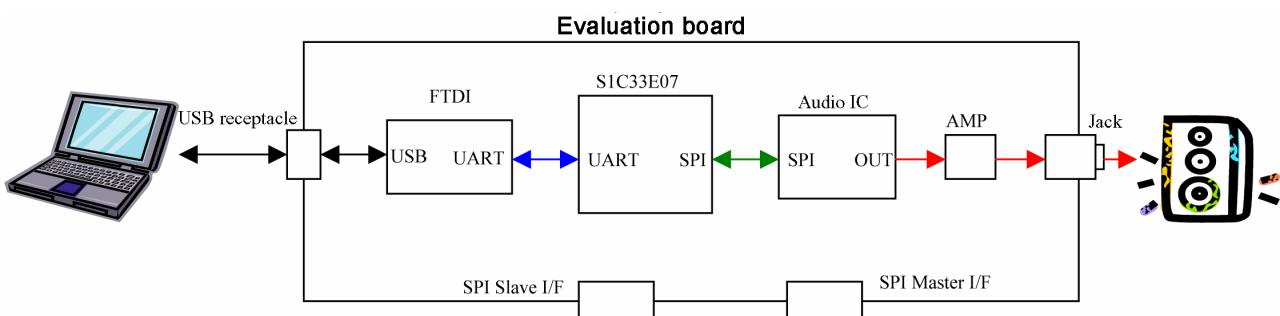

Fig. 2-2 PC host connection diagram
- (1) Fig. 2-2: Allows audio data generated using the audio generation tool to be played back and checked on the audio IC.